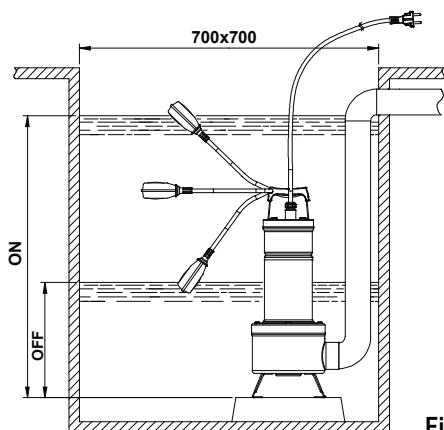

Fig.1
- 4.1 If the bottom of the well or borehole in which the pump is to operate is particularly dirty, it is advisable to provide a support for the pump to sit on so as to avoid clogging of the intake grid (**Fig.1**).
- 4.4 On the version provided with a float switch, ensure that the float can move freely (SEE THE PARAGRAPH ON ADJUSTING THE FLOAT SWITCH). Ensure that the **minimum dimensions** of the borehole are as in **Fig.1**. The dimensions of the borehole must also be calculated with relation to the quantity of water arriving and to the pump flow rate so as not to subject the motor to excessive starting operations.